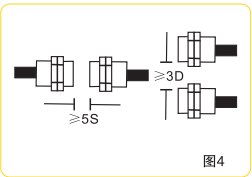

图4
- To prevent the mutual influences between the sensors: When mounting in facing way or apposed way, please follow the instruction in Fig.4 to avoid of the false operation from the mutual influences.